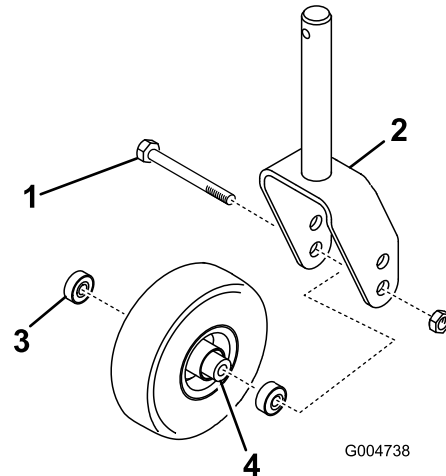
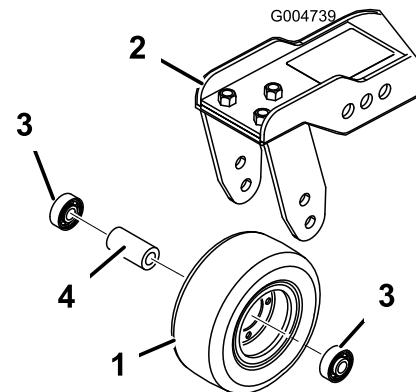

Figure 85
Figure 86
1. Remove the locknut from the bolt holding the caster-wheel assembly between the caster fork (Figure 85) or the caster-pivot arm (Figure 86).
2. Remove the bearing from the wheel hub and allow the bearing spacer to fall out (Figure 85 and Figure 86).